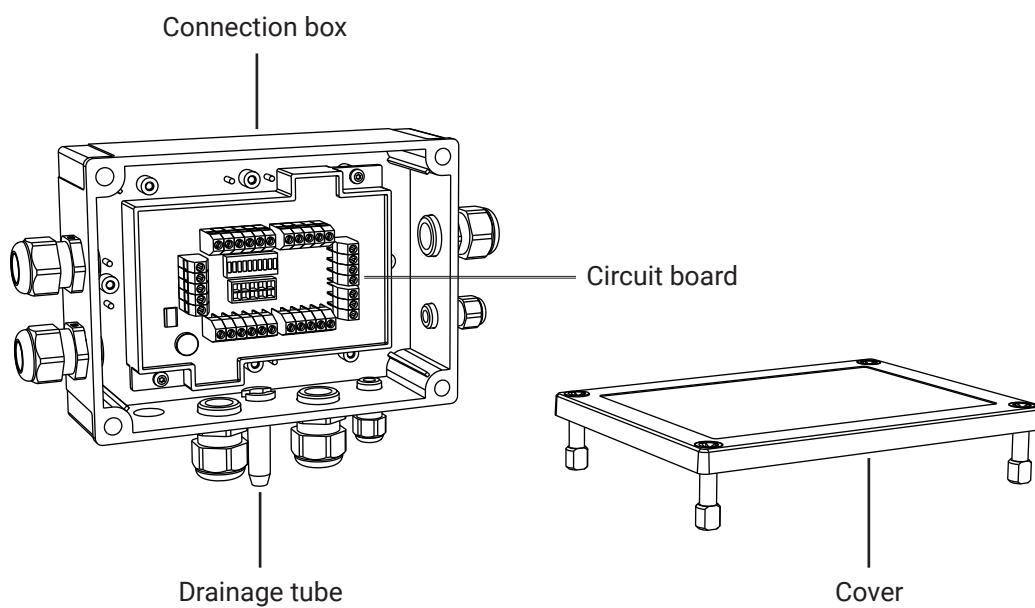

Figure 30. Connection box
2. When fitting, the drainage tube must be facing downwards, see Figure 30.